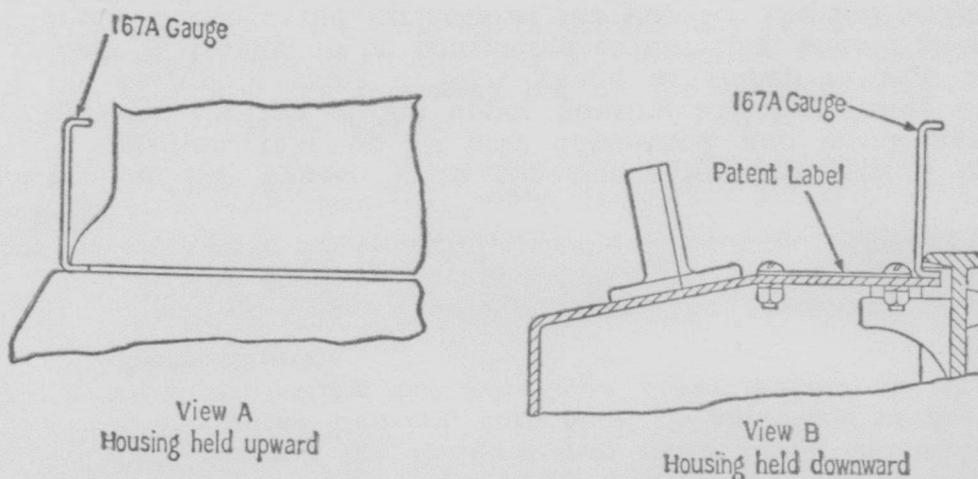

Fig. 1—Gauging of Upper Housing Play
- (a) **On 158 Types:** With the upper housing locked in position, take up all play downward, and check gap between the top of the upper housing and the flange of the backplate using a 167A gauge as shown in Fig. 1, View B. Gauge, to be considered as entering, should slide freely between the surfaces of the gap for the full width of the housing.
- (1) If the .035" end of the gauge does not enter freely, do not use a spacer plate.
- (2) If the .035" end of the gauge enters freely, assemble a spacer plate with the turned-over portion down.
- (3) If the .060" end of the gauge enters freely but with less than 1/32" play, assemble a spacer plate with the turned-over portion up.
- (4) If the .060" end of the gauge enters freely with 1/32" or more play (judged visually and by feel), assemble two spacer plates. One with the turned-over portion down adjacent to the housing and the other with the turned-over portion up on top of the first plate.
(b) **On 168 and 193 Types:** With the upper housing locked in position, take up all play upward, check the gap between the upper and lower housings as shown in Fig. 1, View A, and if the .035" end of the gauge slides freely for the entire length of the gap at the sides and front, then check the gap between the top of the upper housing and the flange of the backplate as shown in Fig. 1, View B, with play taken up downward to determine the spacer plates to be added as described above.
- (d) Arrange the dial cord as shown in Fig. 1 of Section C42.106 using cord clamp P-339764.